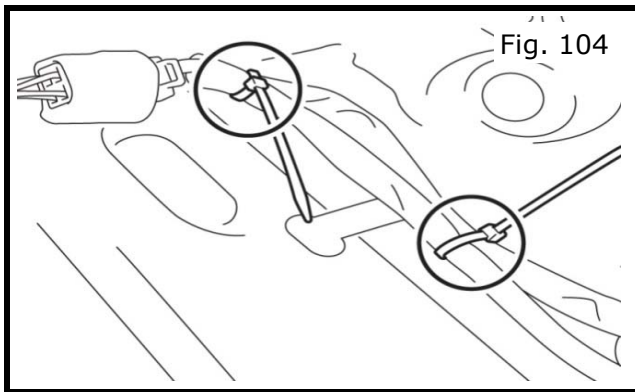

Fig. 104
- a) Continue to route interior sub harness along main harness, secure with two (2) cable ties as shown in Fig. 104.
- b) Connect the 4-pin exterior harness connector to the 4-pin connector from the interior harness as shown in Fig. 104.